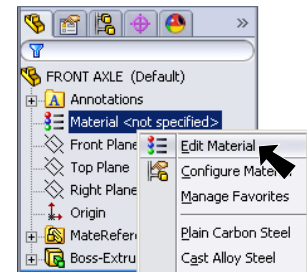

Fig. 9
Step 1. **Right click** **Material**  in the Feature Manager and click **Edit Material** , **Fig. 9**.